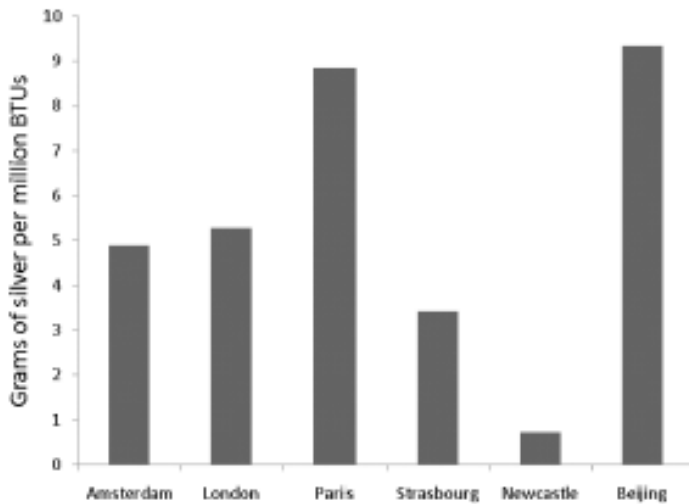
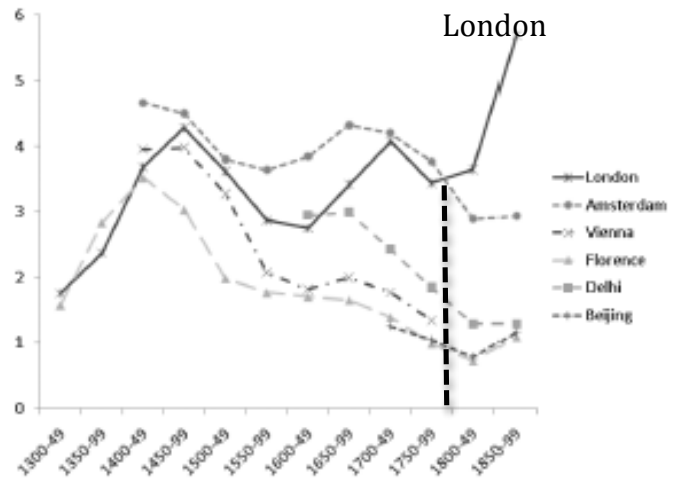

Figure 2: The price of energy, early 1700s
Figure 3: Real wages of labourers
1. How might Adam Smith have explained Watt's success in convincing English manufacturers to switch from human power to steam power? Figure 2 shows the price of energy in various world cities in the 1700s, while Figure 3 shows the price of labor. Use evidence from the figures and what you know about Adam Smith's philosophy to support your argument.
2. “Carrying Coals to Newcastle” was an old British phrase, describing a foolish move. Use evidence from figure 2, above, to explain why it would be foolish to bring coal to Newcastle in the 1700s.